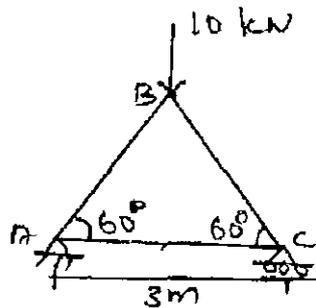

Fig. Q. 11(b)
- (b) For the truss shown in Fig. Q. 11(b) determine the horizontal deflection at the joint B. Assume  $AE = 40 \times 10^5 \text{ kN}$  for each member.